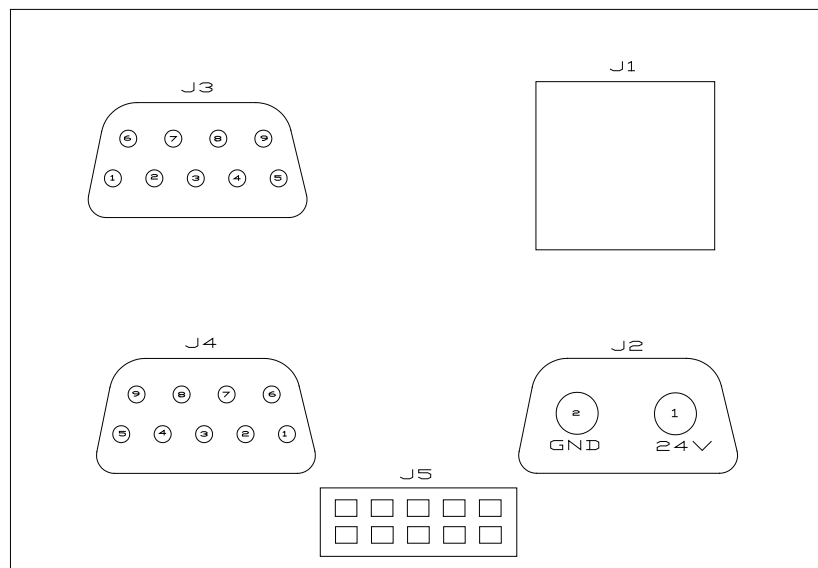

Figure 1
2. Definition of interfaces in Figure 1
- ①. J1 is an Ethernet interface and is used for the communication control between the mechanical arm and the PC host computer interface
- ②. J2 is the power input interface, with 24V DC voltage input.
③. J3 are the IO input interfaces for users, inside of which there are three sets of optocoupler isolated inputs.
④. J4 is the IO output interface, inside of which there are three sets of optocoupler Isolated NPN outputs.
⑤. J5 is the WIFI extended interface, which aims for communication control of APPs on cellphones with WIFI modules developed by our company.
3. Internal circuit design of J3 and J4 interfaces in Figure 1
①. Definition of main pin of J3 interface DB9